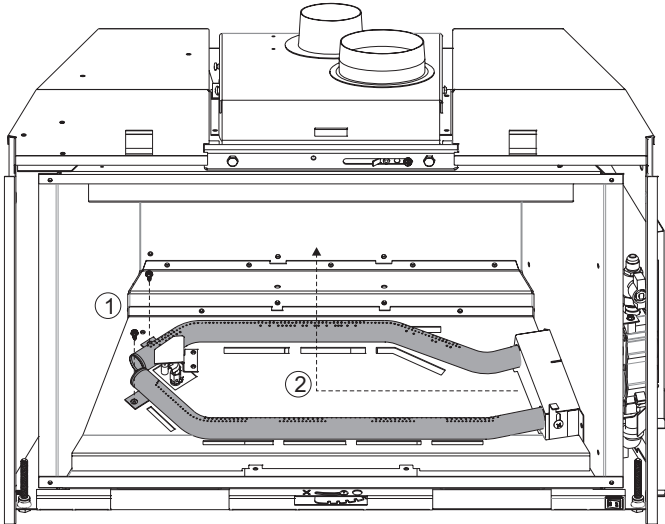

Figure 2
3. Remove front and rear burners by removing screws on left and pulling out towards left side. See Figure 2.